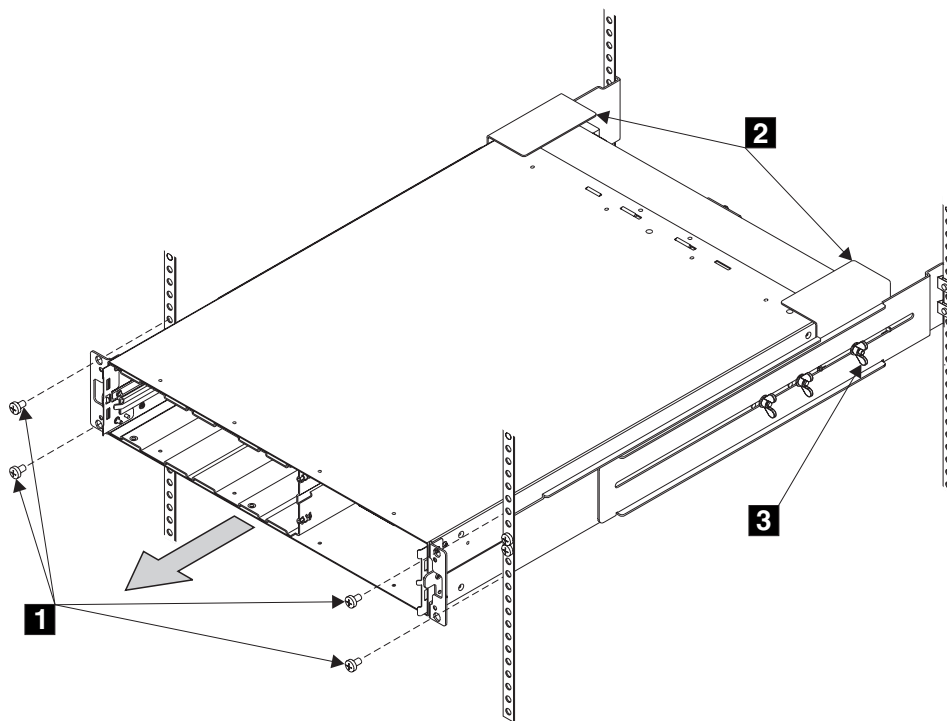

Figure 162. Removing the 2145 uninterruptible power supply
7. At the front of the 2145 UPS, unscrew the mounting screws (**1** in Figure 162).